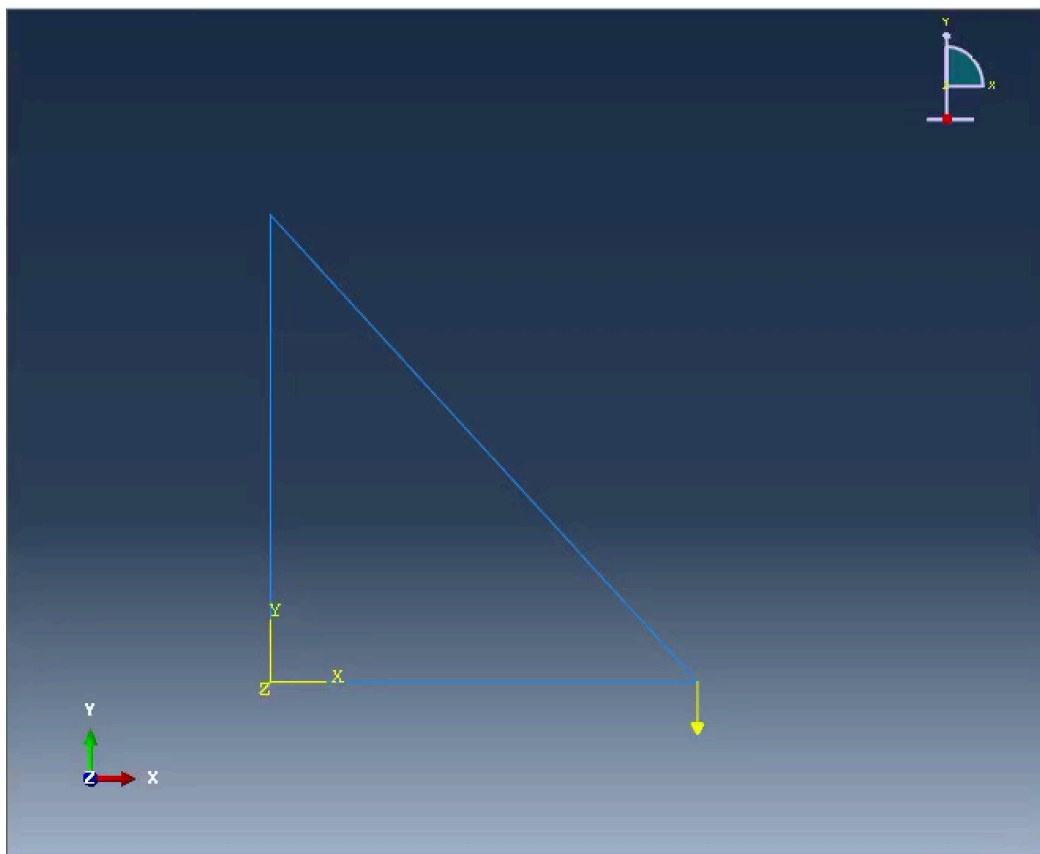

Figure 21 Demonstrating the defined concentrated load on the viewport
- After clicking **OK**, the defined load(s) will be demonstrated on the viewport in yellow color (Figure 21).